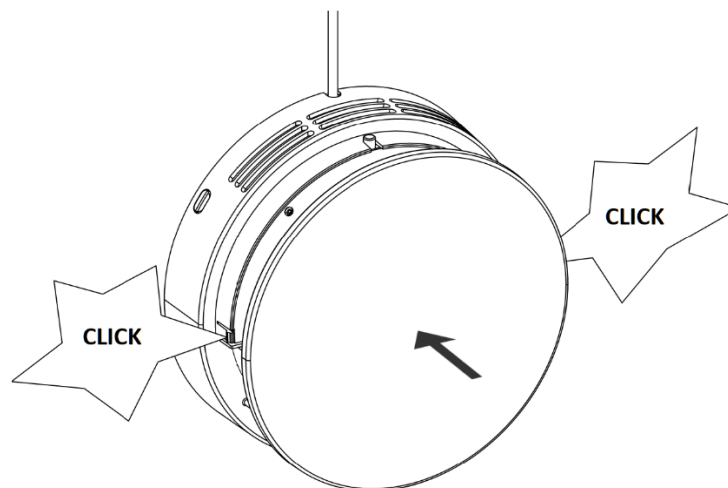

Figure 44 - The internal cover is mounted on the ventilation unit
The internal cover (7) is clicked onto the hood of the ventilation unit, see Figure 44 below.